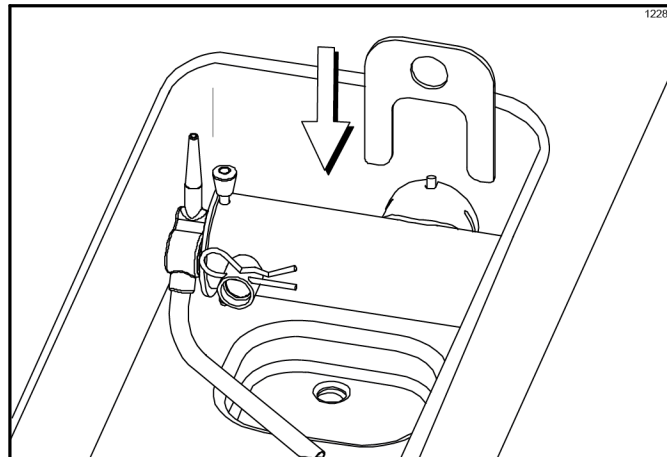
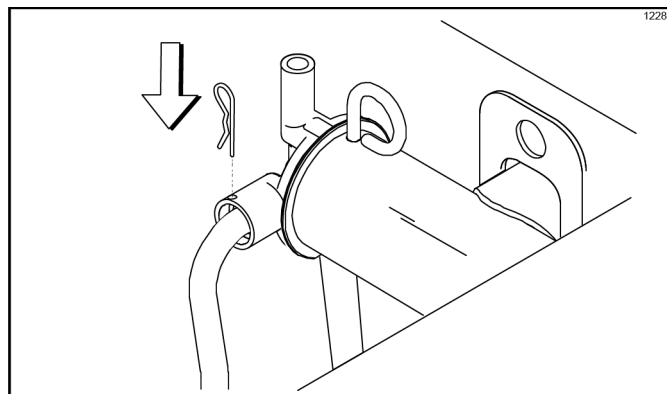

Figure 6-45 Coaxial Pump
Figure 6-46 Simplified Pump
4. To install the pump assembly, position the pump on the drive hub at the rear of the mix hopper. Align the drive groove in the piston with the drive crank of the driveshaft. Secure the pump by slipping the pump clip over the collar of the pump. Make sure the clip fits into the grooves in the collar. Install the cotter pin into the holes in the outlet fitting of the mix pump. (See Figure 6-45.) (See Figure 6-46.)